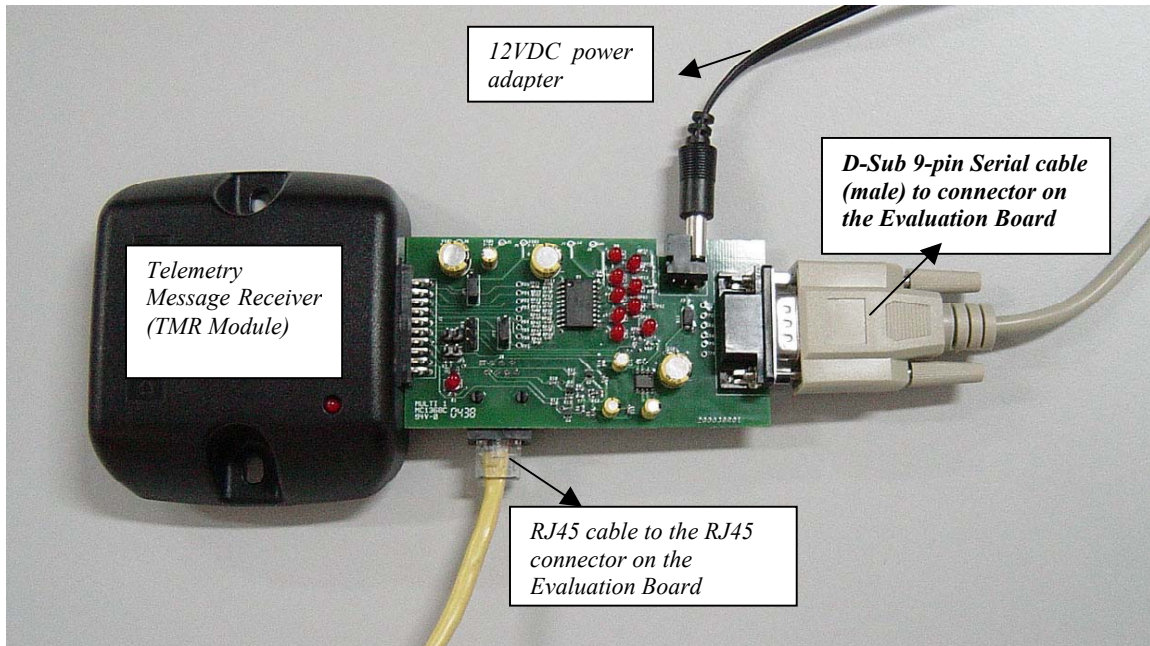

Figure 1. Evaluation Kit set-up with TMR module, Evaluation Board and various cables.
1. Plug the TMR module 20-pin connector into the Evaluation Board 20 pin connector (Fig. 1).
2. Connect RJ45 connector to the RJ45 Jack on the Evaluation Board (Fig. 1). Connect DB25-pin connector of the programming cable to Parallel Port on PC (Fig.2). *(This connection need only be made if the TMR will be re-programmed with a new frequency or CAP code.)*
3. Connect the male portion of the D-Sub 9-pins serial cable to connector on the Evaluation Board (Fig. 1). Connect female portion of the D-Sub 9-pins serial cable to the Serial Ports (COM ports) on PC (Fig.2).